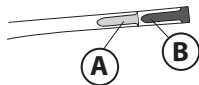

Figure 3
**Note:** The headstrap has two sets of tabs for better adjustment. For larger size heads, use the black tabs. For smaller head sizes, use the blue tabs (Figure 3). The extra tabs can be removed using a pair of scissors.